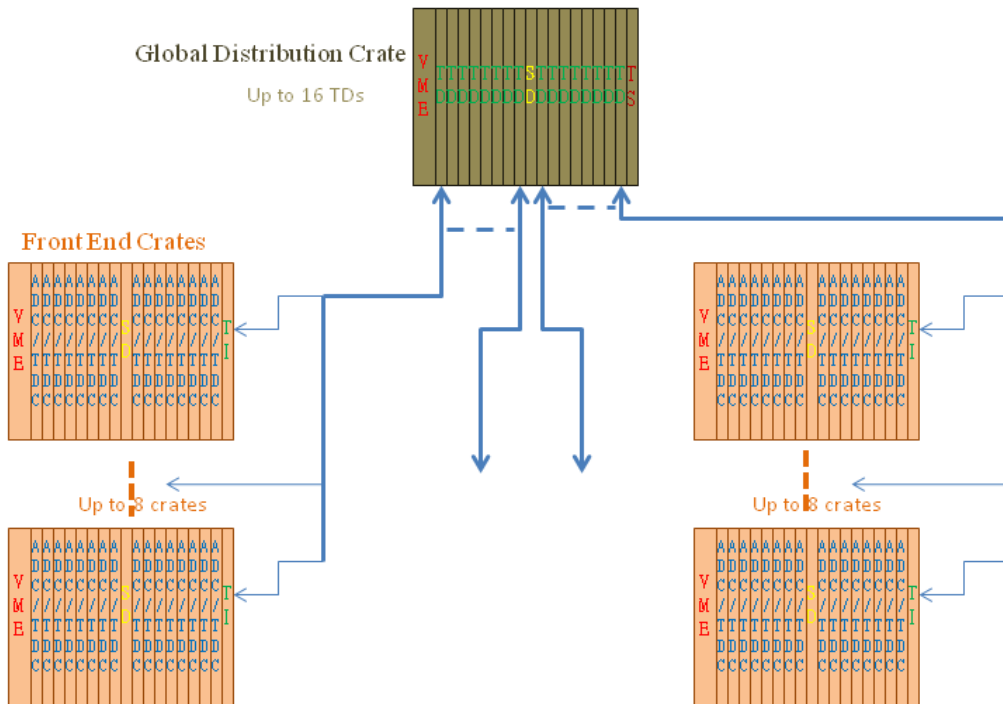

Figure 2, Trigger distribution at crate level diagram
There is one TS module in the system. The TS receives the trigger from GTP (in global trigger crate) through four copper cables via the VME P2 backplane and a P2 data transition card. The TS sends event readout signal through the distribution system. Depending on the frontend DAQ status, not all the triggers will generate event readout signals. Normally, the TS board is located in the last payload slot (Payload slot#18) in the trigger distribution crate. The trigger/clock/sync signals from TS pass to the Signal Distribution (SD) module in switch slot #B. The SD will fan out the signals to (up to) sixteen Trigger Distribution (TD) modules located in the payload slot #1-16. Each TD can fan out to (up to) eight Trigger Interface (TI) modules in frontend crates. The trigger distribution system can have up to 127 frontend crates, the global trigger crate, and the global distribution crate. The busy signals from frontend electronics can propagate back to the TS in the other direction. Figure 2 shows the crate level diagram.